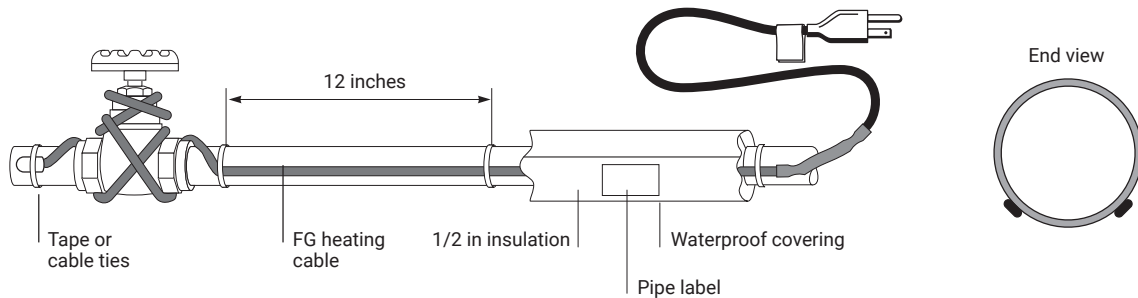
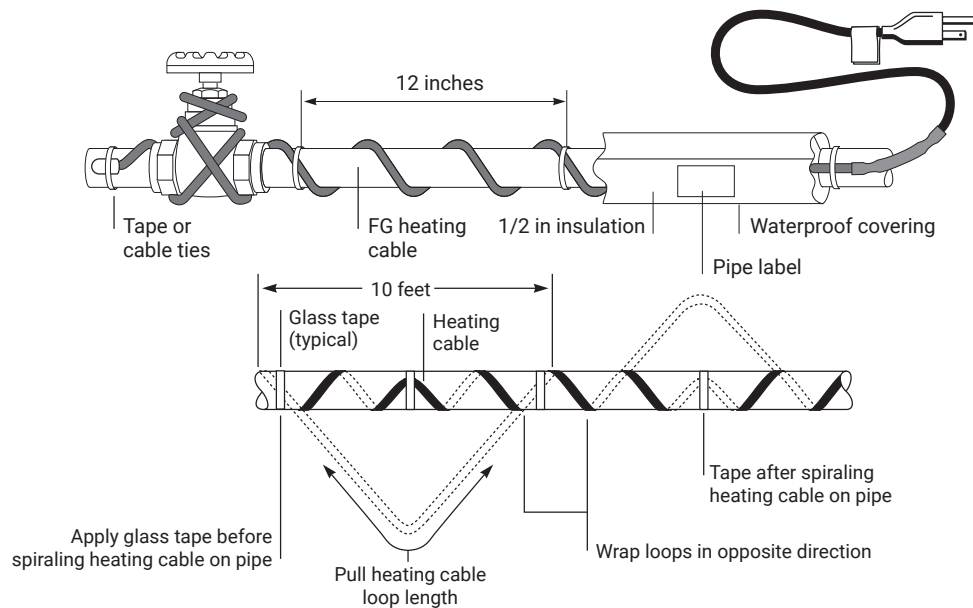

Figure 1. Straight-traced installation
Figure 2. Spiral-traced installation
- Install heating cable, using straight tracing Figure 1, or spiraling Figure 2.
- Be sure to install the additional heating cable required for valves, flanges, etc. as shown in Figures 1 and 2.
- When the design calls for spiraling, begin by suspending a loop every 10 feet as shown in Figure 2. To determine the loop length, divide the FrostGuard length by your pipe length and multiply by 10. For example, if you are using a 50 ft FrostGuard on a 40 foot pipe, leave a 12-foot loop of heating cable at every 10-foot section of pipe. Grasp the loop in its center and wrap it around the pipe. Even out the distance between spirals by sliding the wraps along the pipe. Use glass tape to secure the center of the loop to the pipe.